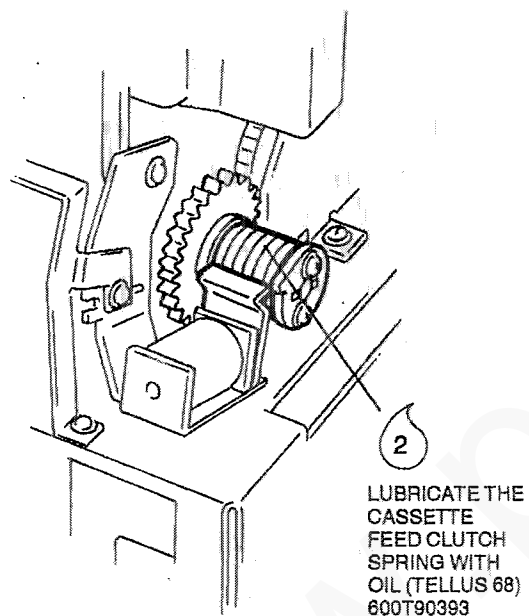

Figure 1. Lubricating cassette feed clutch spring
2. (Figure 1) Lubricate the cassette feed clutch spring as indicated.